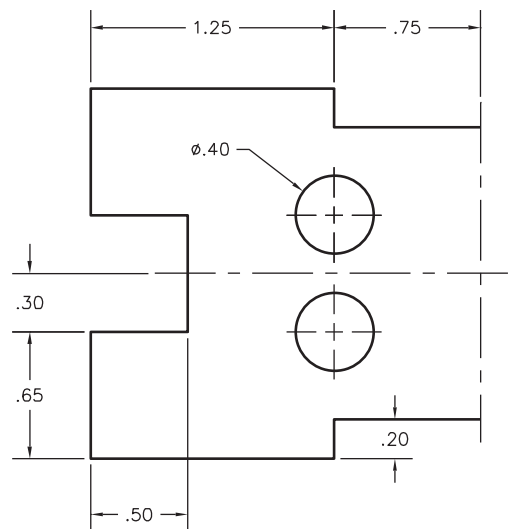

Fig. 17-11
1. Create the shim shown in Fig. 17-11. Begin by drawing the left half of the shim according to the dimensions shown, using construction lines for center lines. Then mirror the objects to create the right half of the shim. Erase any unneeded lines. Save the drawing as **shim.dwg**.